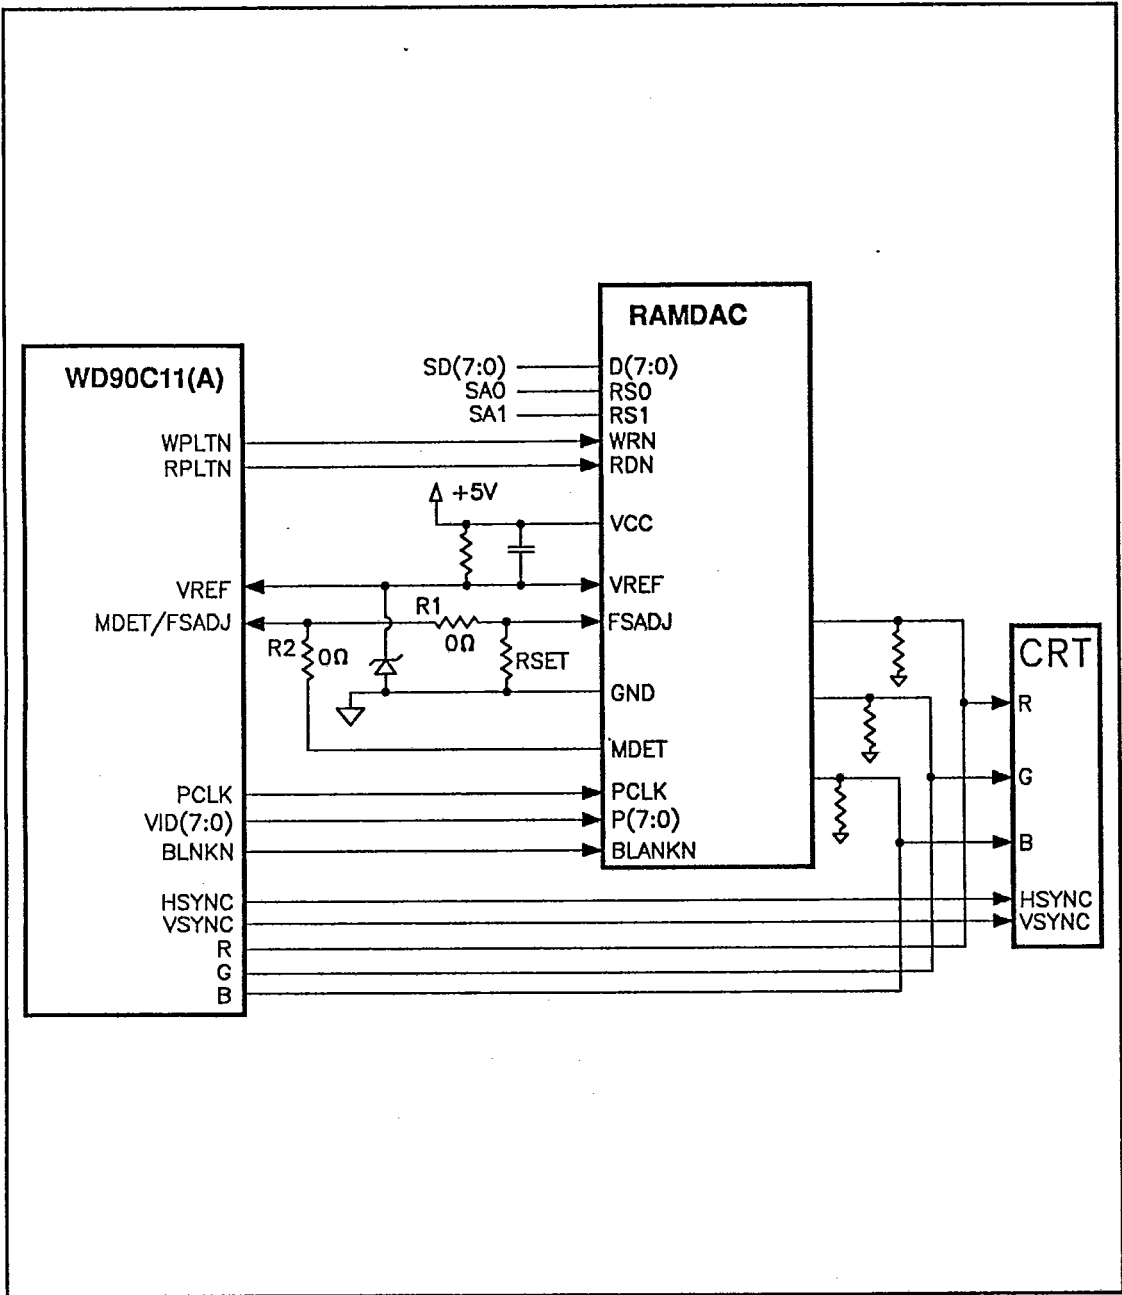

FIGURE A-7. WD90C11(A) WITH RAMDAC INTERFACE
Figure A-7 illustrates the WD90C11(A) and RAM-DAC interface block diagram for analog monitors.